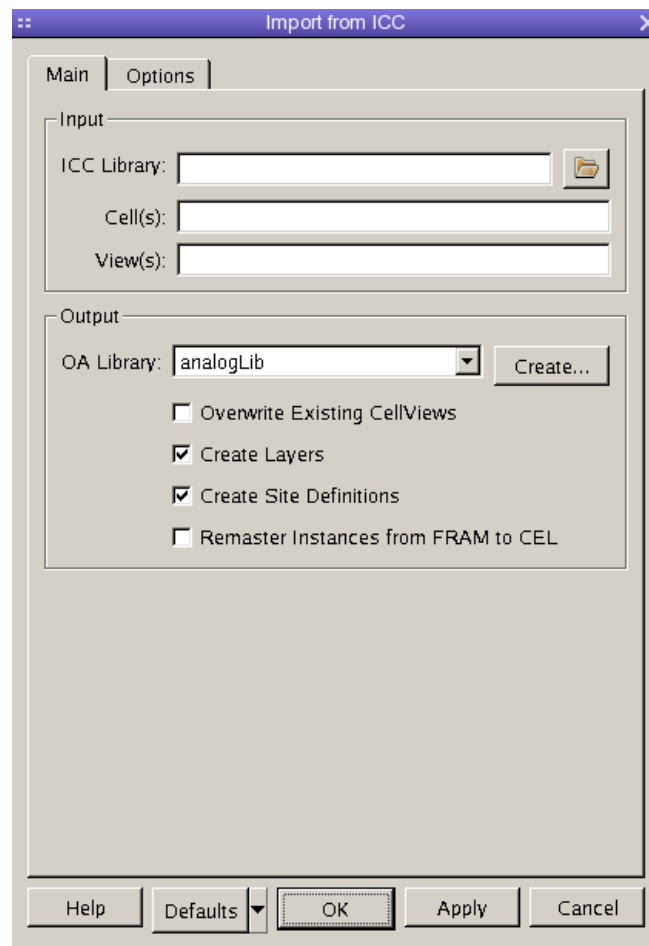

Figure 13 Import from ICC Dialog: Main Tab
2. From the Console, choose **File > Import > From ICC**. The **Import from ICC** dialog comes up (Figure 13).
3. In the **Main** tab (shown in Figure 13), specify required input details: